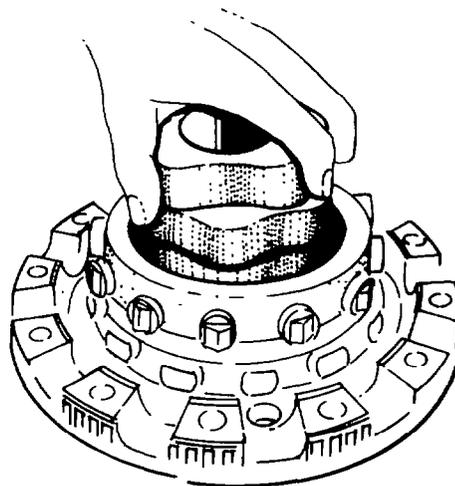

Fig. 330 — Installing Inner Cam
- f. Ensure all the wedges are pushed outward, then dip the hub of the inner cam in gear oil (OEP-220), align the hub of the inner cam with the bush in the driving cage and install the inner cam (see fig. 330).